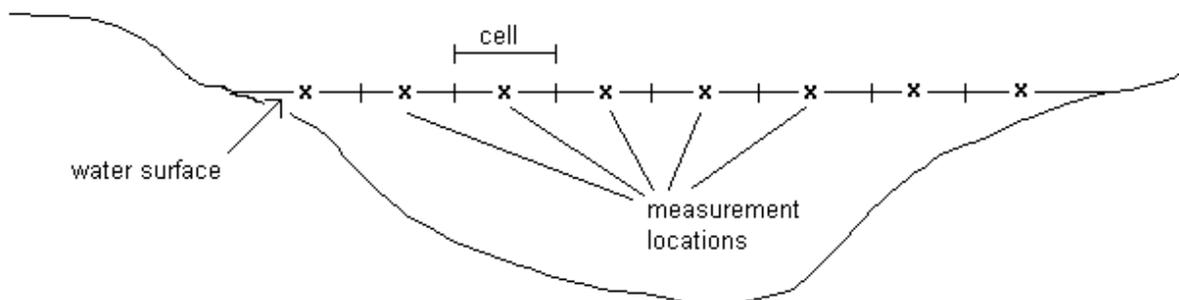

Figure 7. Discharge measurement locations.
6. Take measurements in the center of the cell as shown in Figure 7. At each increment, record the cell width, the distance from the initial point (left wetted edge), water depth, and the velocity (in m/sec) on the data sheet.